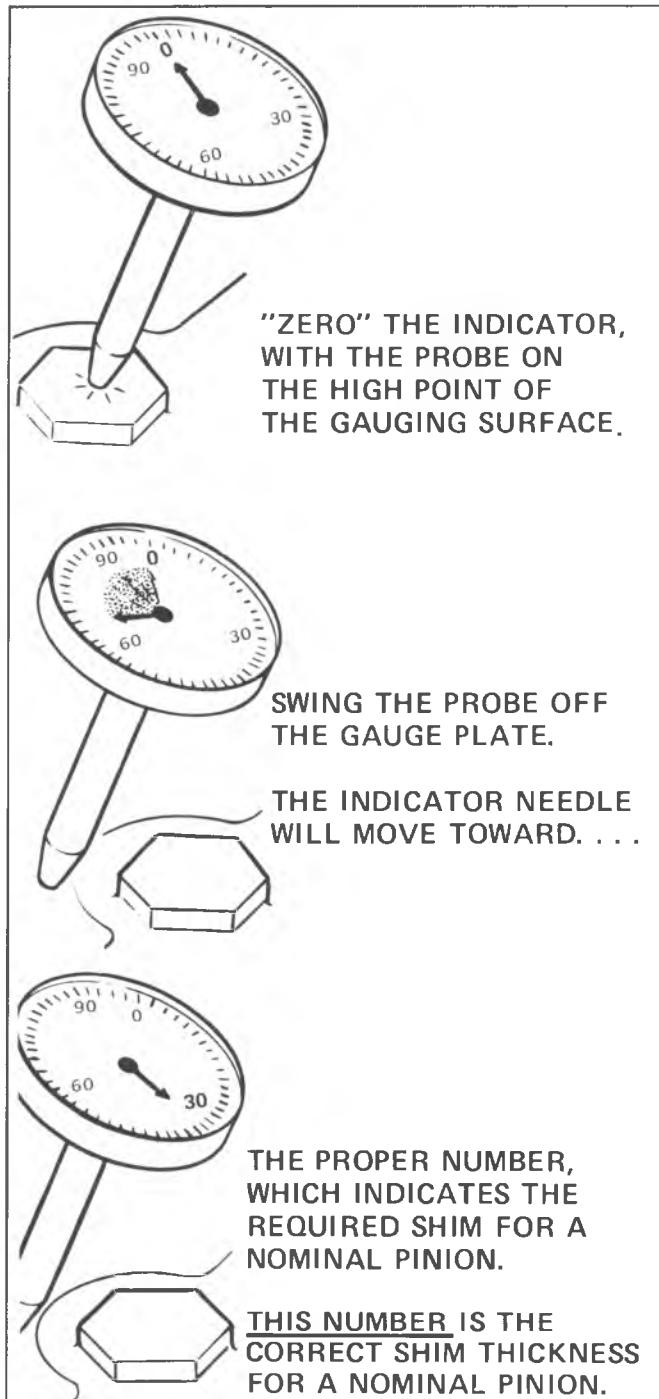

Fig. 4B-22--Use of Dial Indicator
2. Place a new pinion oil seal into position in carrier bore. Tap lightly with a protective plate and a hammer until seal flange seats against carrier, as shown in figure 4B-24.